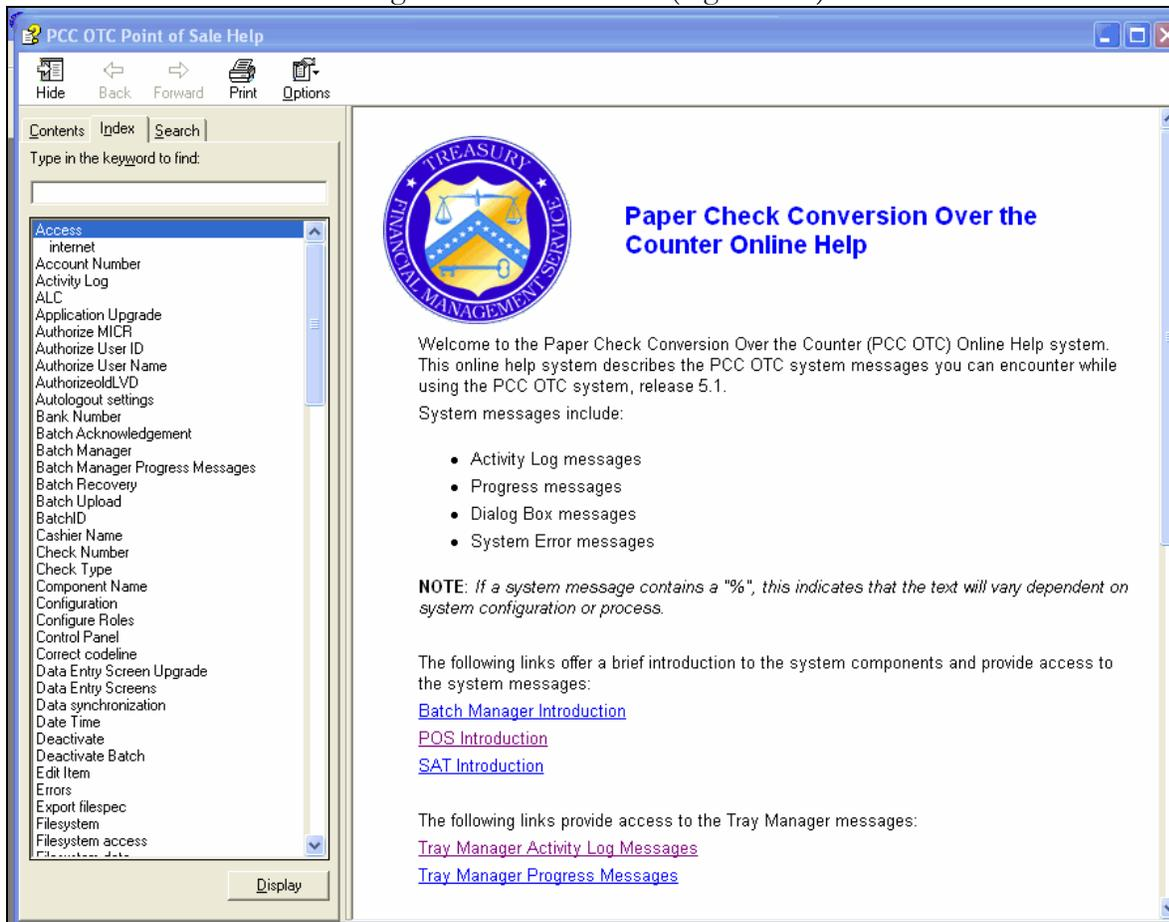

Figure 3.41
- Index – displays an alphabetical index of items on the left side of the screen and the user can click the ‘Display’ button at the bottom of the window on the left to display the contents of that subject in the window on the right side of the screen. (Figure 3.41)